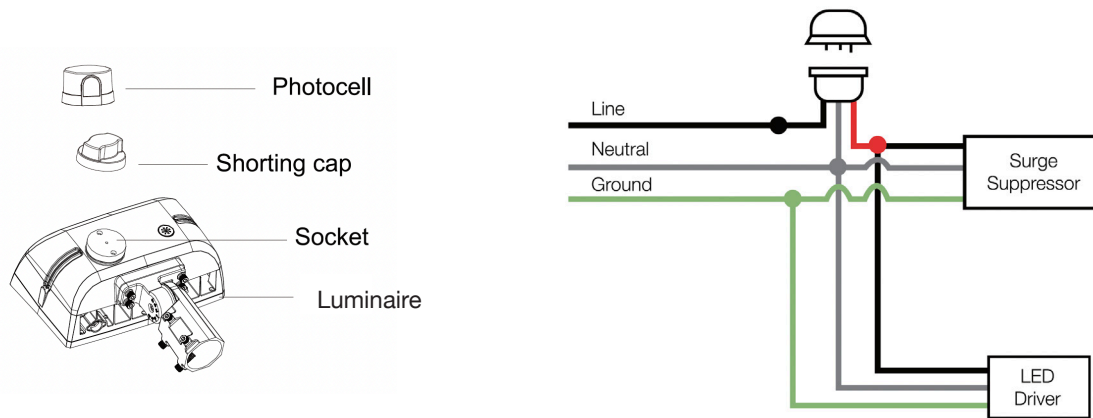

Fig 2.1
The photocell (JL-205LV or JL-207E) is installed on the back of the luminaire. Remove the circular backplate screws to access the wires. Connect the wires according to the wiring diagram (Fig. 2.1). When the photocell function is not required, the photocell can be removed but a shorting cap (JL-208) will need to be installed.
3. Connect the wires according to the wiring diagram (Fig.2.1). Re-attach circular backplate to back of fixture.